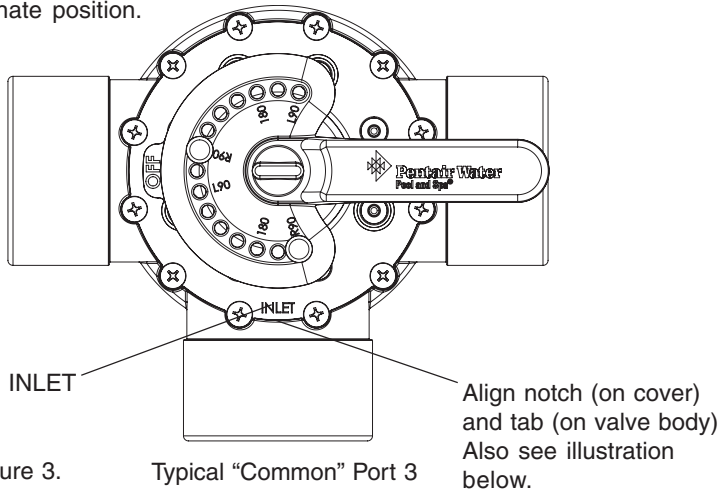

Figure 3.
To remove the diverter valve top cover (see Figure 3):
2. Align the notch (on cover) and tab (on valve body) this will position the top cover molded name "INLET" over the center or "common" port as shown in Figure 3. Make sure the cover and valve body screw holes are aligned.